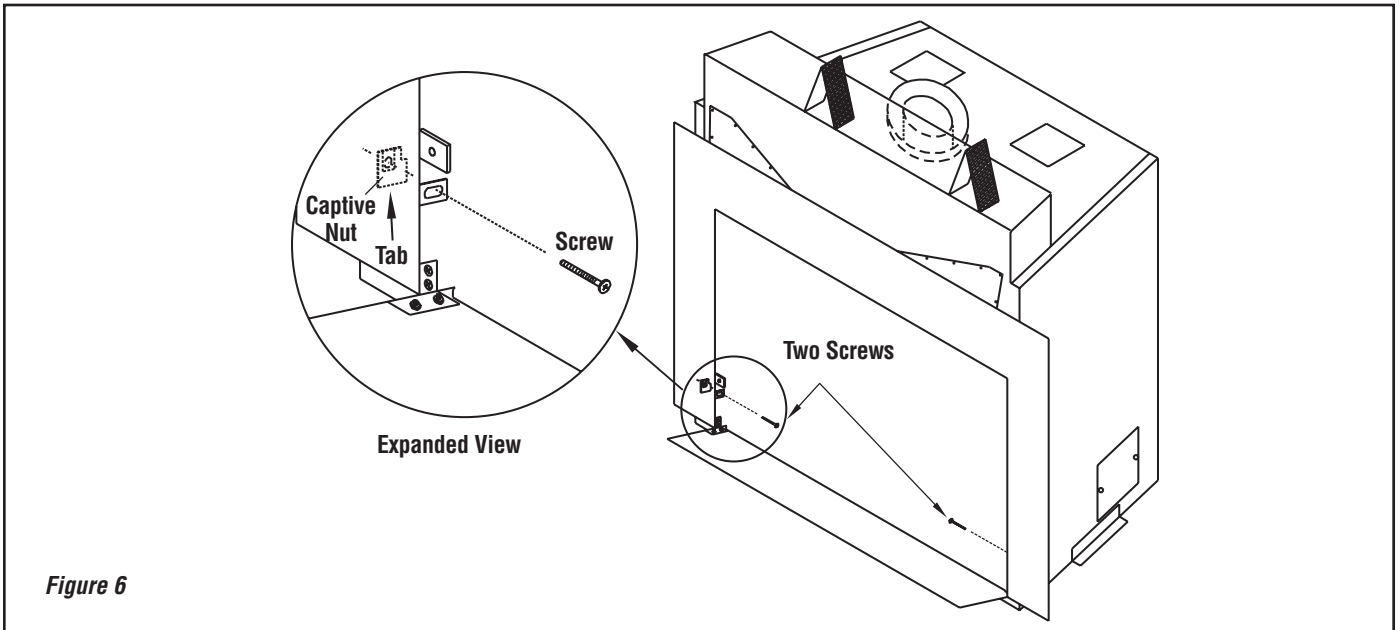

Figure 6
Step 6. Locate the two screws found in the hardware bag shipped with the face. Position the face (with the lower door open) in front of the fireplace. Install the two screws shown in **Figure 6**, through the holes in the lower door hinge bracket and screw them into the captive nut on the tab (see **Figure 6**). Do not fully tighten these screws yet.